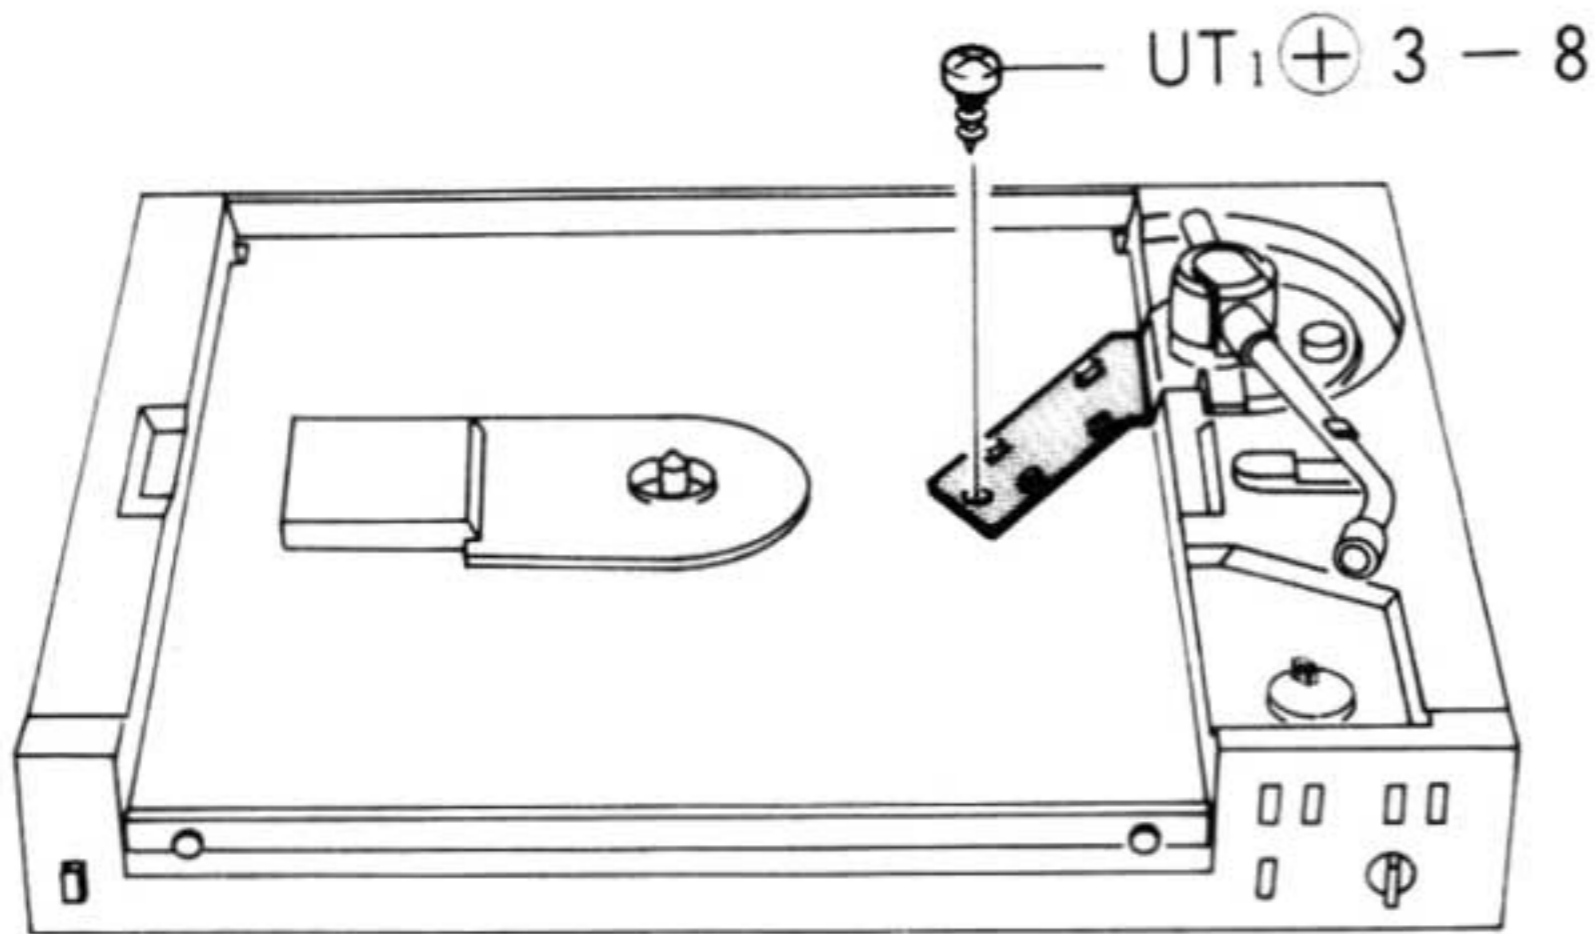

Fig. 3
- 3) Remove the cover (main cabinet) (See figure 3)